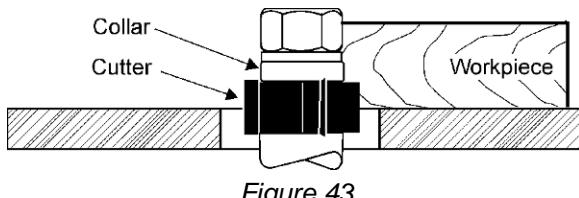

Figure 43
2. When the collar is used above the cutter, as shown in Figure 43, the cut cannot be seen. But this method offers an advantage in that the cut is not affected by slight variations in the thickness of the stock. Also, accidental lifting of the workpiece will not gouge the workpiece; simply repeat the operation to correct the mistake.